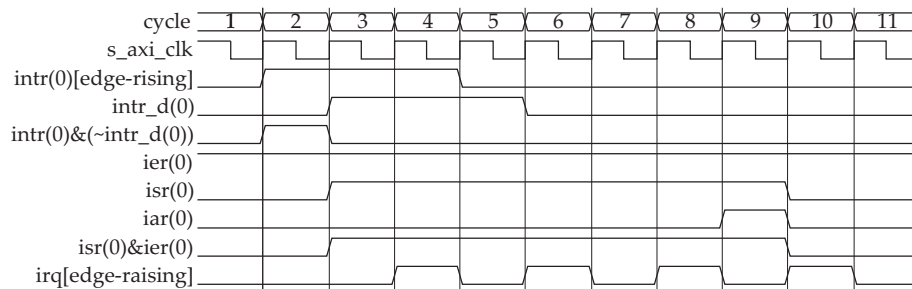

Figure 19: Input Intr - Edge Sensitive (Rising) and Output Irq - Edge Sensitive (Rising)
9. Configured Input Interrupt (Intr) for Edge sensitive (rising) and Output Interrupt Request (Irq) to Edge sensitive (rising) and is shown in Figure 19.